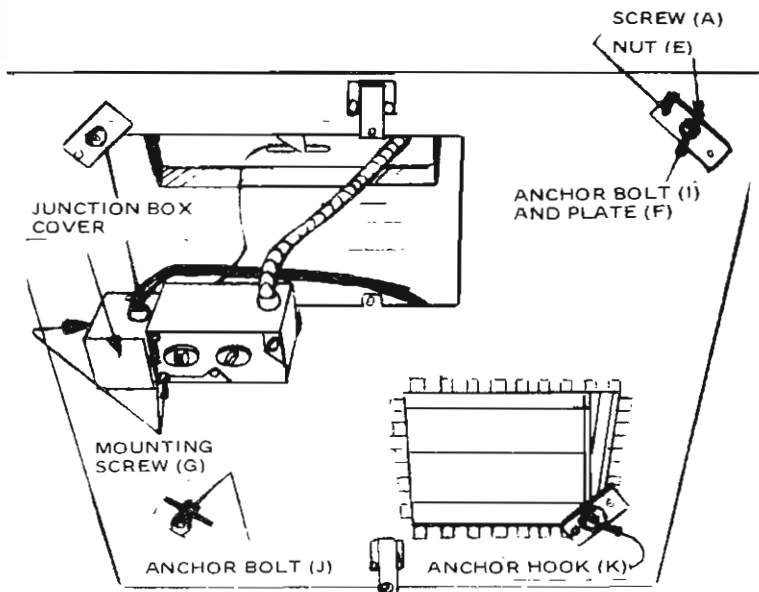
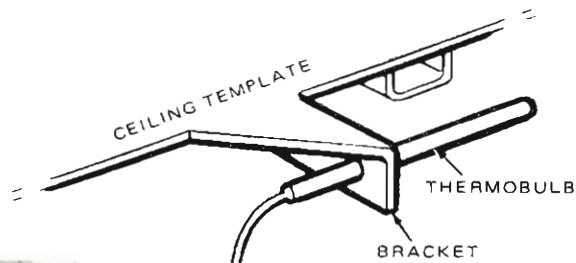

FIGURE 11
FIGURE 11A
- Secure the air conditioner with the four anchor bolts, nuts, plates and screws provided. Figure 11. Anchor bolts should be tightened evenly to insure the proper seal on roof. Install junction box cover. Figure 11. Place thermobulb in the bracket provided. Figure 11A.